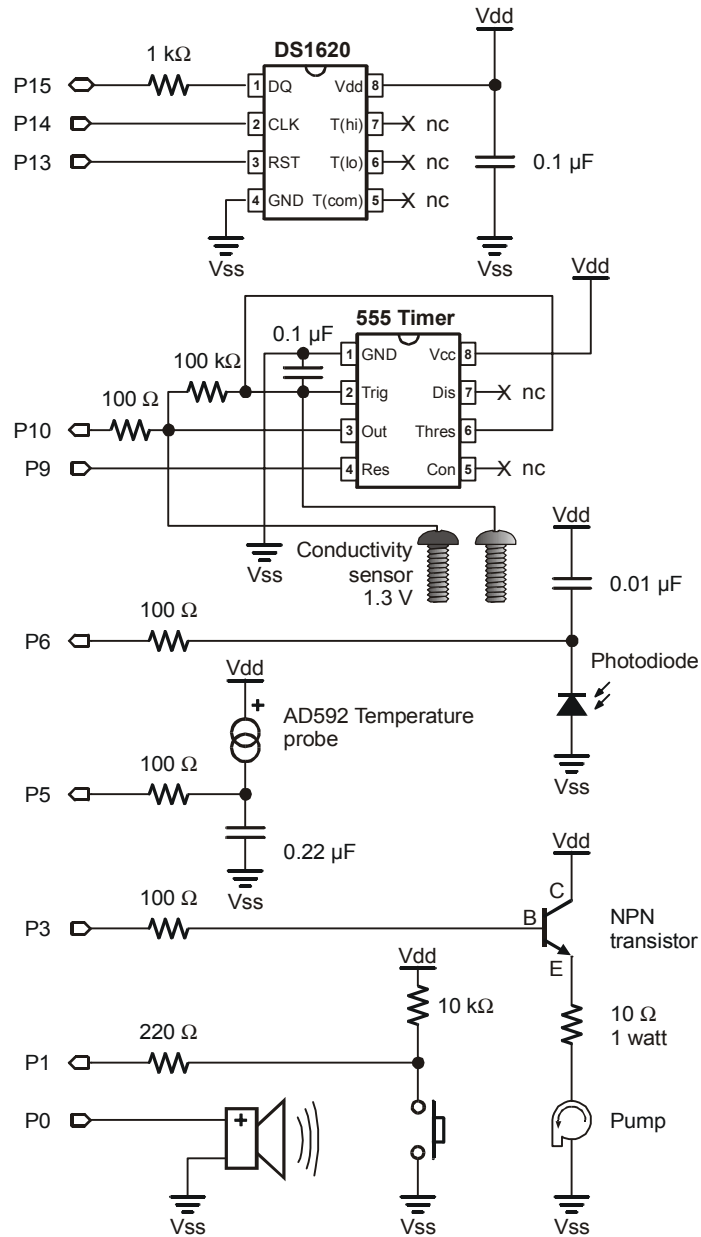
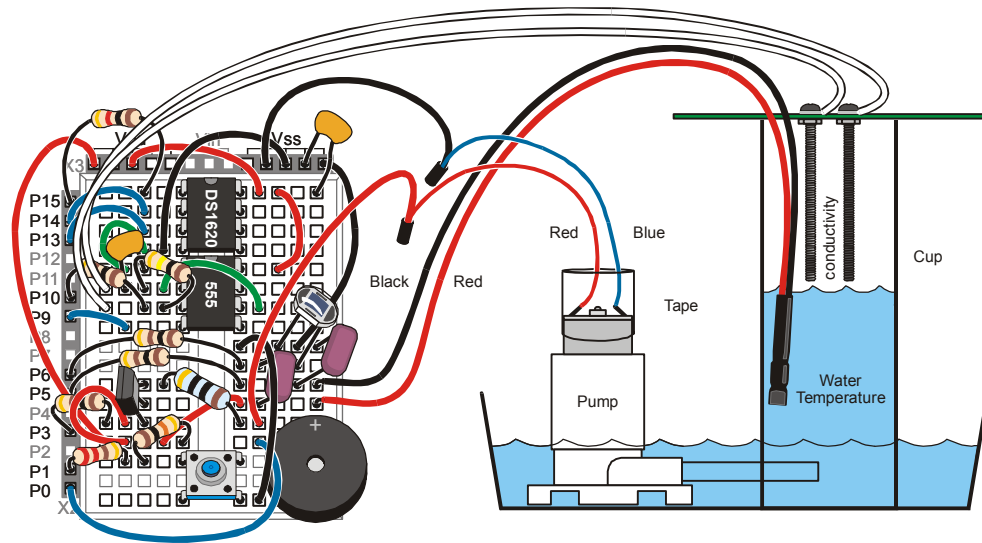

Figure 6-2
Figure 6-3: Pump Control with Transistor Wiring Diagram for the Board of Education
- ✓ Add the transistor and pump circuit to the Board of Education, following the schematic in Figure 6-2 and the wiring diagram in Figure 6-3.
- ✓ For the moment, lay the conductivity sensor aside, but it will rest across the rim of the cup as shown in Figure 6-3 later on in the experiment.